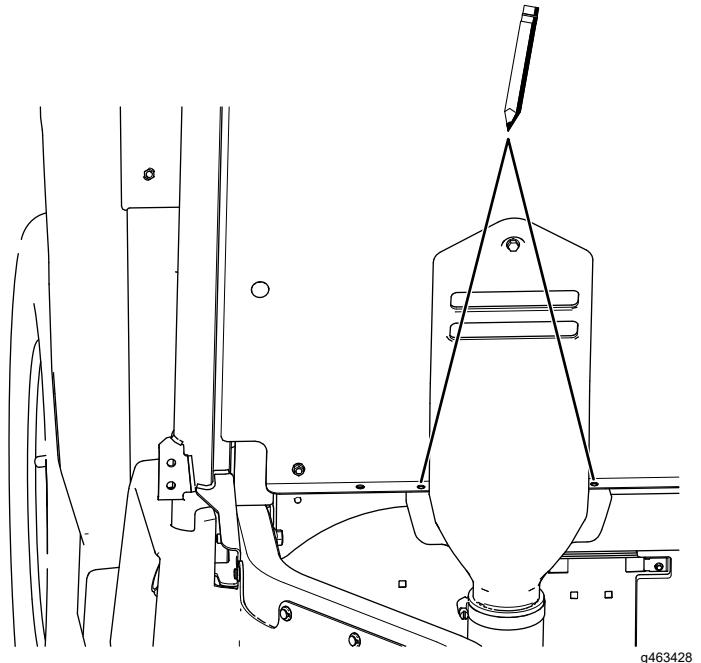

Figure 63
- Using the CVT-intake hood as the template, mark the 2 hole locations (Figure 63).